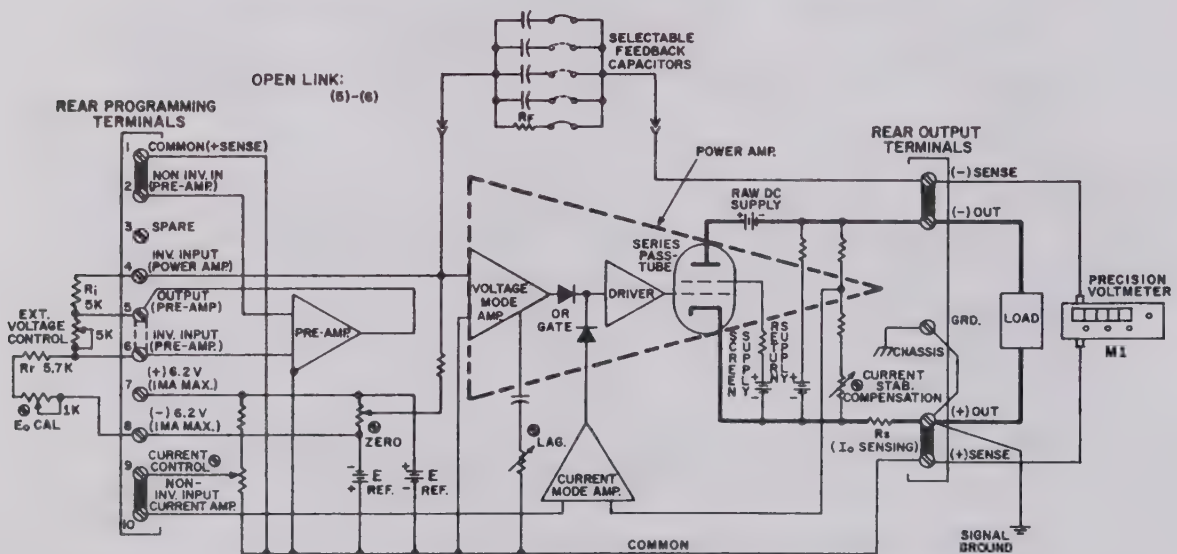

FIG. 3-9 CONNECTIONS FOR OPS OUTPUT VOLTAGE CONTROL BY A LINEAR RESISTANCE.
- 1) Connect the selected feedback resistor (R_f = EXTERNAL VOLTAGE CONTROL), the reference resistor (R_r = 6.2 k ohm, Note: Make part of R_r adjustable for E_o CAL. control), the LOAD and the OUTPUT VOLTMETER (M1) to the OPS as shown in FIG. 3-9. NOTE: FOR INTERCONNECTION DETAILS AND PRECAUTIONS, TURN TO THE "WARNING" PARAGRAPH ON PAGE 3-3.